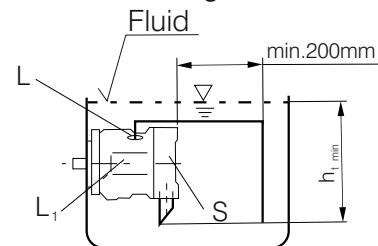

Fig.3
- If the minimum fluid level is above the top of the pump, port "L" closed, "L'" and "S" should remain open, L piped 1 and recommendation S piped (see Fig.3)